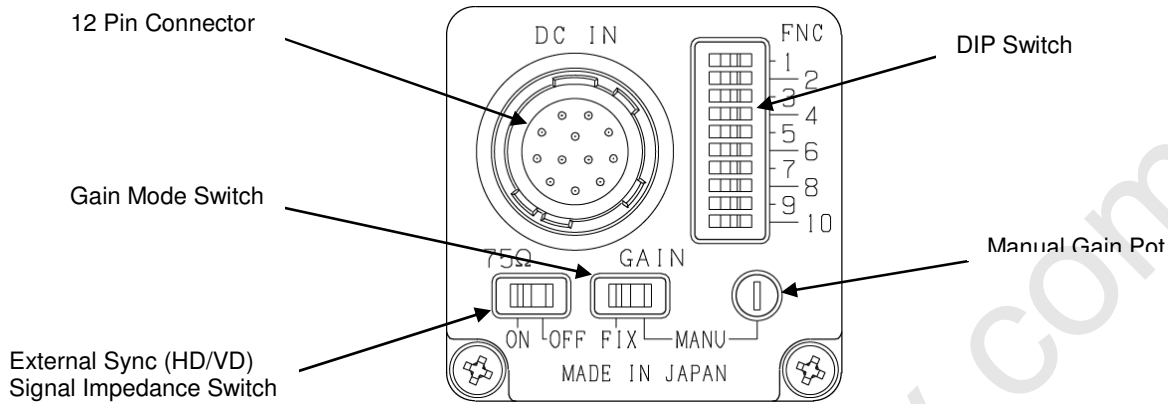

Figure 1
2. DIP Switch Settings (Refer to **Dip Switch** in **Figure 1**)
3. External Sync. (HD/VD) signal impedance setting (See **External Sync.** in **Figure 1**)
4. Gain Mode Setting (See **Gain Mode Switch** in **Fig. 1**)
The gain can be adjustable by the manual gain pot (See **Manual Gain Pot** in **Fig. 1**).